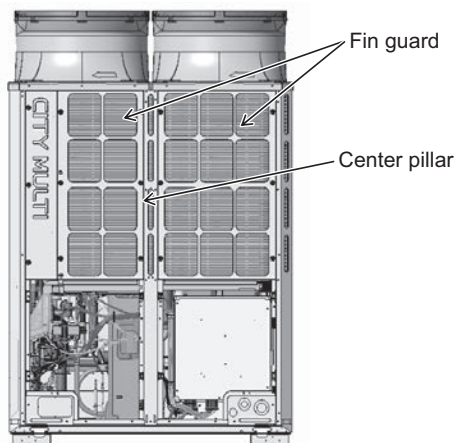

Figure 1
- (2) Remove the fin guard by unscrewing the 12 screws. (See Figure 1.)
- (4) Remove the center pillar by unscrewing the five screws. (See Figure 1.)